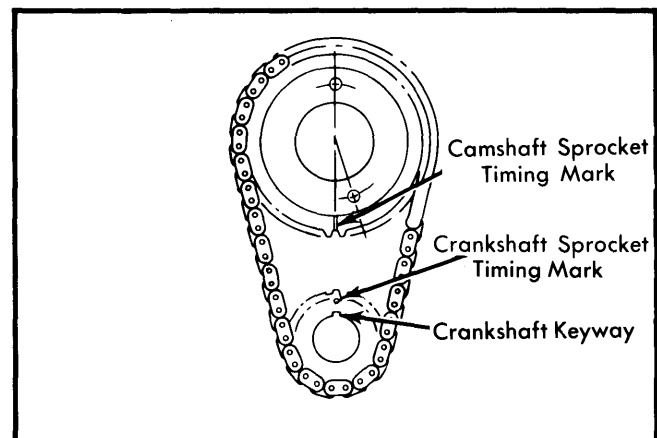

Fig. 9 Timing Chain Sprocket Alignment
**Installation** — Install timing chain on sprockets with timing marks aligned as shown in Fig. 9. Slide both sprockets and timing chain onto engine. Tighten camshaft sprocket attaching bolts and install camshaft thrust button and spring.